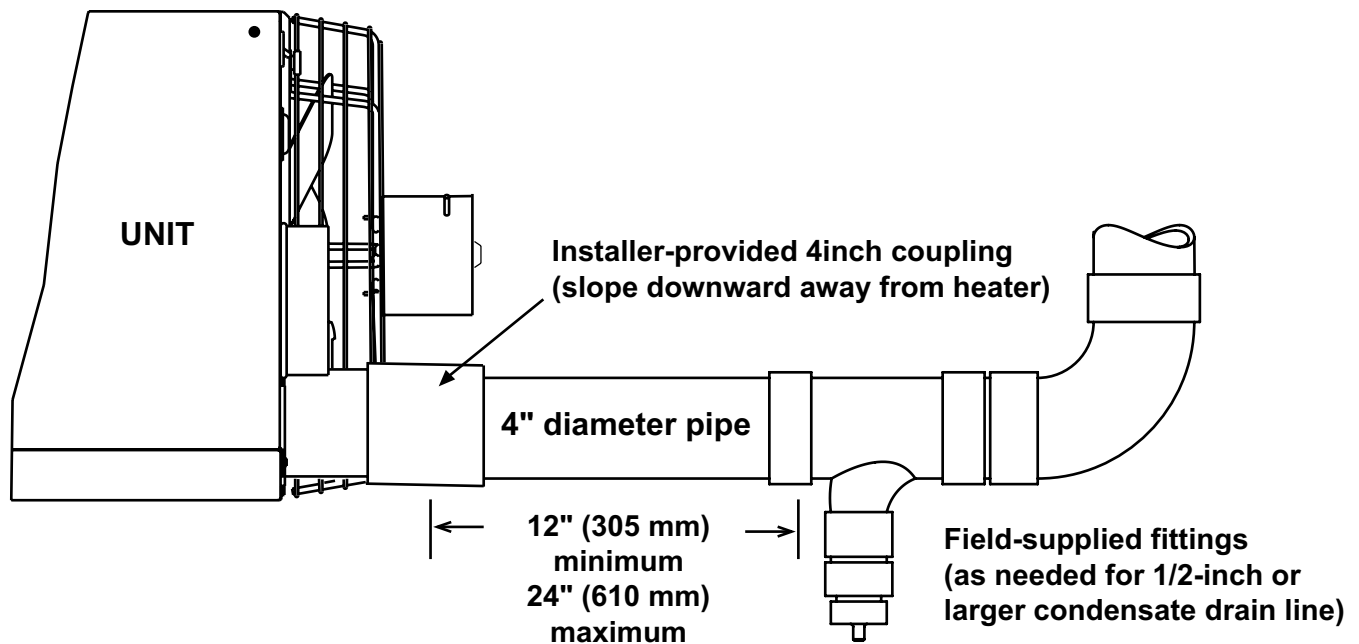

Figure 20. Installing Condensate Drain in Vertical Vent (US or Canadian Installation)
- Instructions for installing a condensate drain connection with a vertical vent (US OR CANADIAN INSTALLATIONS) using field-supplied vent and drain components are shown in Figure 20.